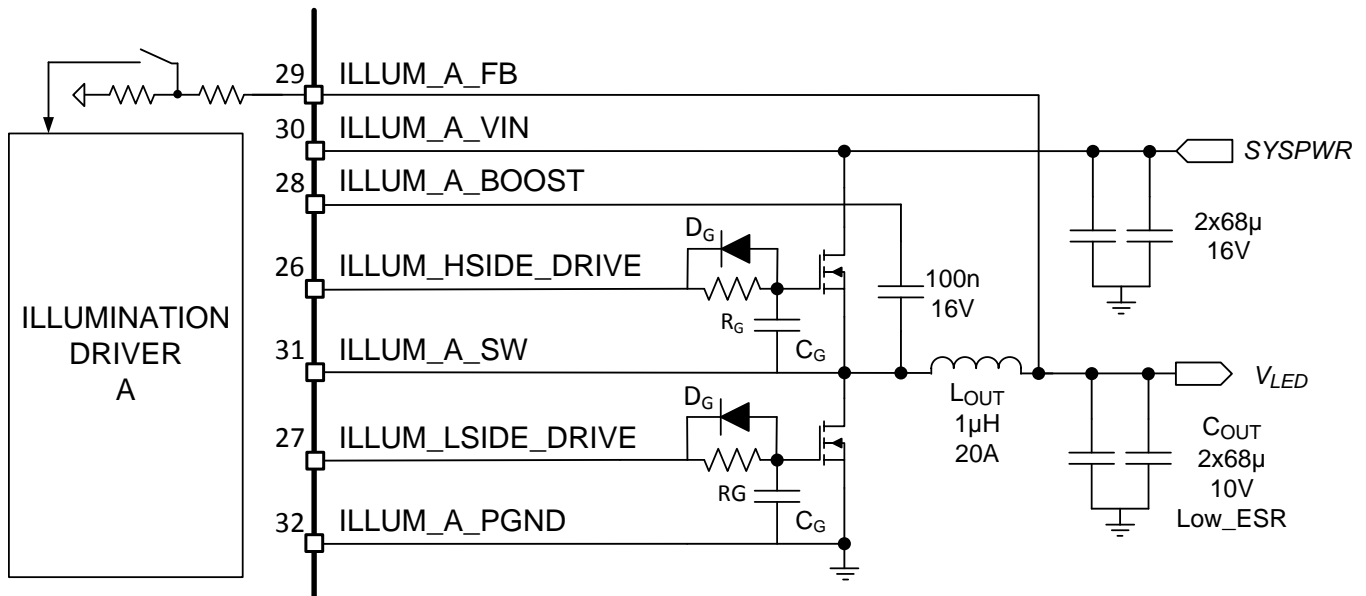

Figure 6. Typical Illumination Driver Configuration
The illumination driver of the DLPA3005 is a buck controller for driving two external low-ohmic N-channel FETs (Figure 6). The theory of operation of a buck converter is explained in the application note *Understanding Buck Power Stages in Switchmode Power Supplies (SLVA057)*. For proper operation, selection of the external components is very important, especially the inductor  $L_{OUT}$  and the output capacitor  $C_{OUT}$ . For best efficiency and ripple performance, an inductor and capacitor should be chosen with low equivalent series resistance (ESR).
Below (Figure 12) an overview is given of the efficiency of the illumination driver plus power FETs for an input voltage of 12 V. Used external components (Figure 6): High-side FET (L) CDS17506Q5A, Low-side FET (M) CDS17501Q5A,  $L_{OUT} = 2 \times 2.2 \mu\text{H}$  parallel,  $C_{OUT} = 88 \mu\text{F}$ . The efficiency is shown for several output voltage levels ( $V_{LED}$ ) versus output current.